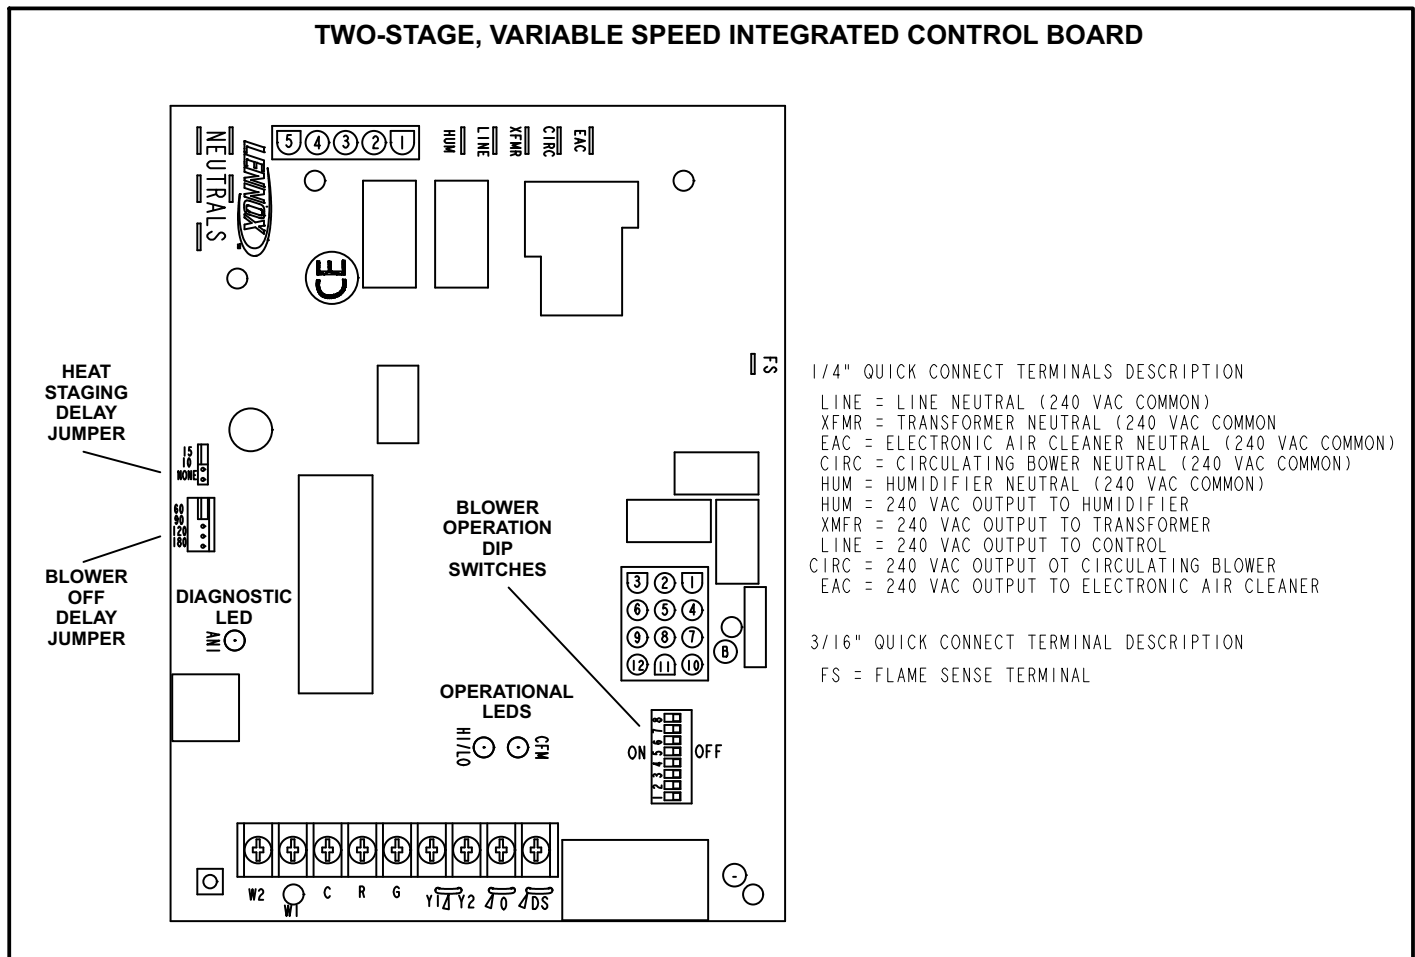

FIGURE 4
All units are equipped with the Lennox two-stage, variable speed integrated control board. The system consists of a ignition / blower control board (figure 4) with control pin designations in tables 1, 2 and 3 and ignitor (figure 11). The board and ignitor work in combination to ensure furnace ignition and ignitor durability. The integrated board controls all major furnace operations. The board features a red LED light, for furnace status and troubleshooting. Table 4 shows codes for control 101018-01 and table 5 shows codes for control 101018-02. The LED flashes in "X" + "Y" codes. For example using table 4 under "PRESSURE SWITCH CODES", if the red LED flashes 2 times, then off for 2 seconds then flashes 3 times, the low pressure switch is failed open. 2 green LEDs show indoor blower status and CFM. The board also has two accessory terminals rated at (1) one amp each.
The control can be utilized in two modes: SINGLE-STAGE thermostat or TWO-STAGE thermostat. The thermostat selection is made using the heat staging jumper (figure 4) and must be positioned for the particular application. The jumper is factory set in the NONE position for use with a